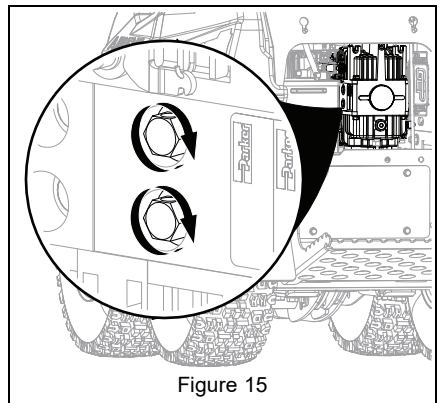

Figure 15
6. Turn both bypass valves two complete turns clockwise to the operating position. Torque to 9.5 N•m (7 lb-ft) – 13.6 N•m (10 lb-ft). See Figure 15.